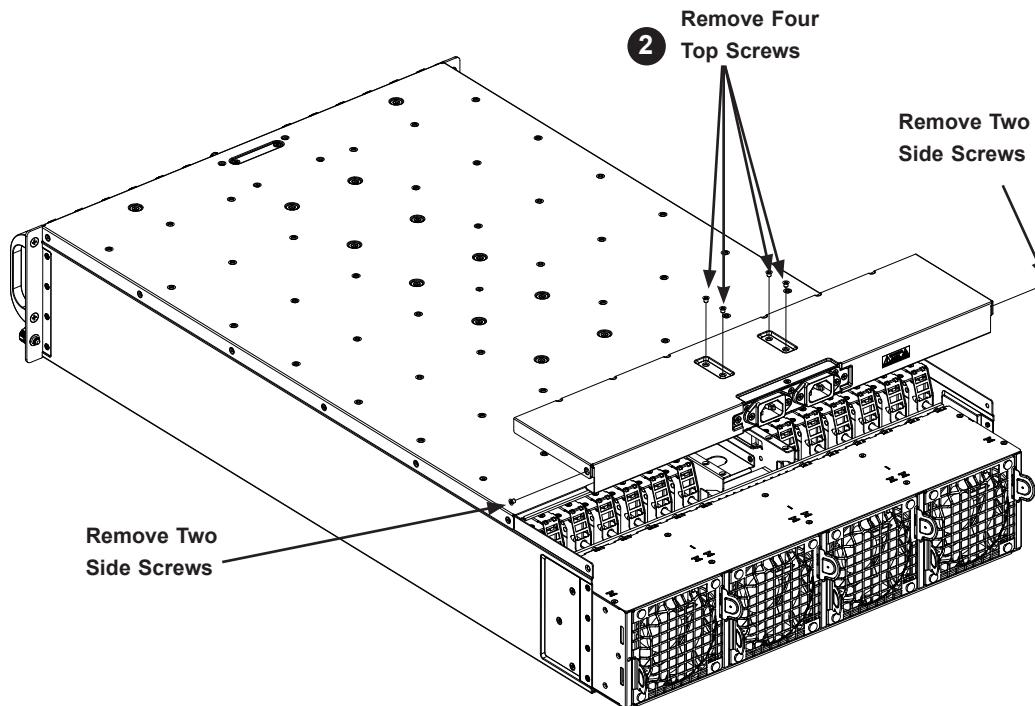

Figure 3-1. Removing the Chassis Cover
2. Remove the six screws securing the cover to the chassis. See Figure 3-1.